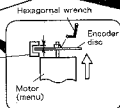
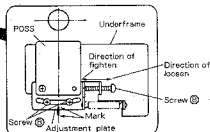
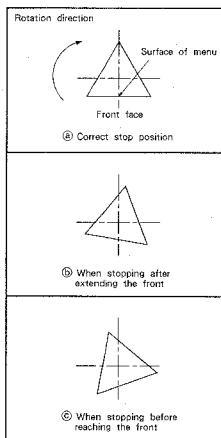

Fig. 7-2
Fig. 7-3
Fig. 7-4
- Loosen screw ④ which holds the encoder disc using a hexagonal wrench.
- Loosen screw ⑤ which holds the adjustment plate.
- (1) Set the gap between the encoder disc and photo interrupter of the motor (menu) to 1.2 mm. (Fig. 7-2)
- (2) Fix the screw of the encoder disc by tightening with a hex wrench.
- (3) Turn screw ⑥ so that the carved mark on the adjustment plate aligns with the underframe. Then temporarily tighten screw ④.
- (4) Push the ROTATE MENU key on the front panel of the main unit so that menu rotates. Then, perform the following adjustments depending on the condition. (Fig. 7-3)
- When the menu stops after extending the front ..... Loosen screw ④, then tighten screw ⑥ turning it clockwise.
- When menu stops before reaching the front ..... Loosen screw ④ and turn screw ⑥ counterclockwise to loosen it.
- (5) Turn the menu again and firmly tighten screw ④ when the menu stops directing its surfaces to the front. (Fig. 7-4 ②)
- (6) Finally, turn the menu and check that the menu stops directing all of its three surfaces to the front at every 120° rotation.